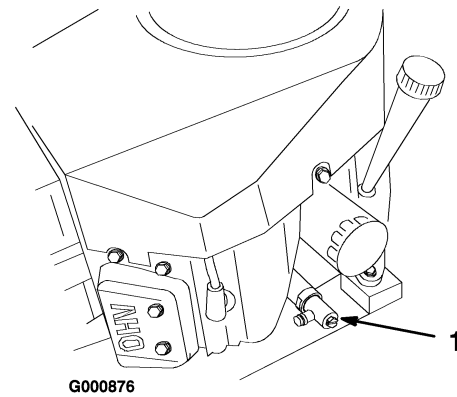

Figure 23
5. Slide the drain hose over the oil drain valve (Figure 23).
6. Place a pan below the oil drain hose. Use either a flat screw driver, 3/8 inch (10 mm) wrench to open valve (Figure 23).
7. Rotate valve end counterclockwise to open valve (Figure 23).
8. When oil has drained completely, rotate valve end clockwise to close the valve (Figure 23).
10. Clean around the oil dipstick and unscrew the cap (Figure 23).
11. Slowly pour approximately 80% of the specified oil into the filler cap (Figure 23). Refer to Servicing the Engine Oil, in Engine Maintenance, page 22.